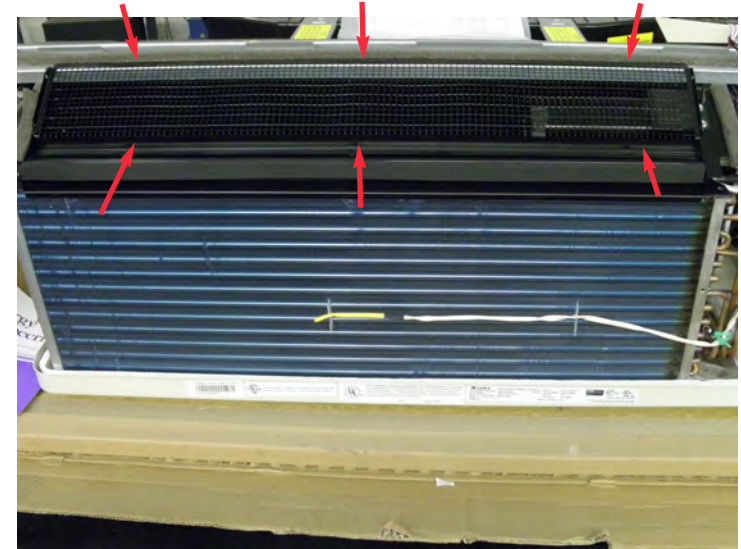

Figure 4
2. Remove metal screen by removing the 6 screws. (Refer to figure 4)